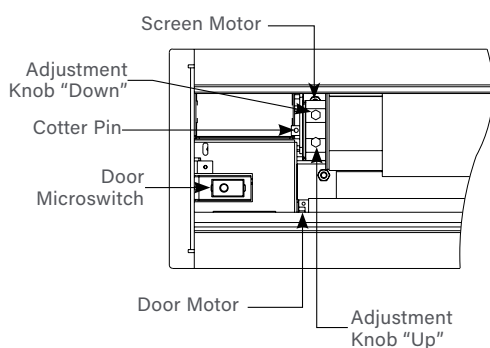

Figure 2
3. Place the roller assembly into the case with the motor on the left side. The limit switches should be facing down. Line up the square pin on the motor with the square hole in the bracket and secure with the cotter pin. See figure 2.
6. Carefully remove tape strips securing picture surface around roller. Slat should move freely (Fig. 2). (Only if the roller assembly is preinstalled.)
2. When the screen stops, turn the "down" limit knob (Fig. 2) one-quarter turn counterclockwise. Test by raising picture surface approximately two feet, then lower again. Repeat until desired picture surface position is attained.
3. Turn the "down" limit switch (Fig. 2) one-quarter turn clockwise. Test by raising picture surface approximately two feet, then lower again. Repeat until desired picture surface position is attained.